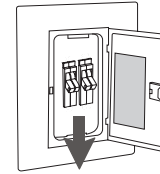

FIG. 5
1. Disconnect power at the breaker to the fan location. A licensed electrician must install the fan (FIG. 5).